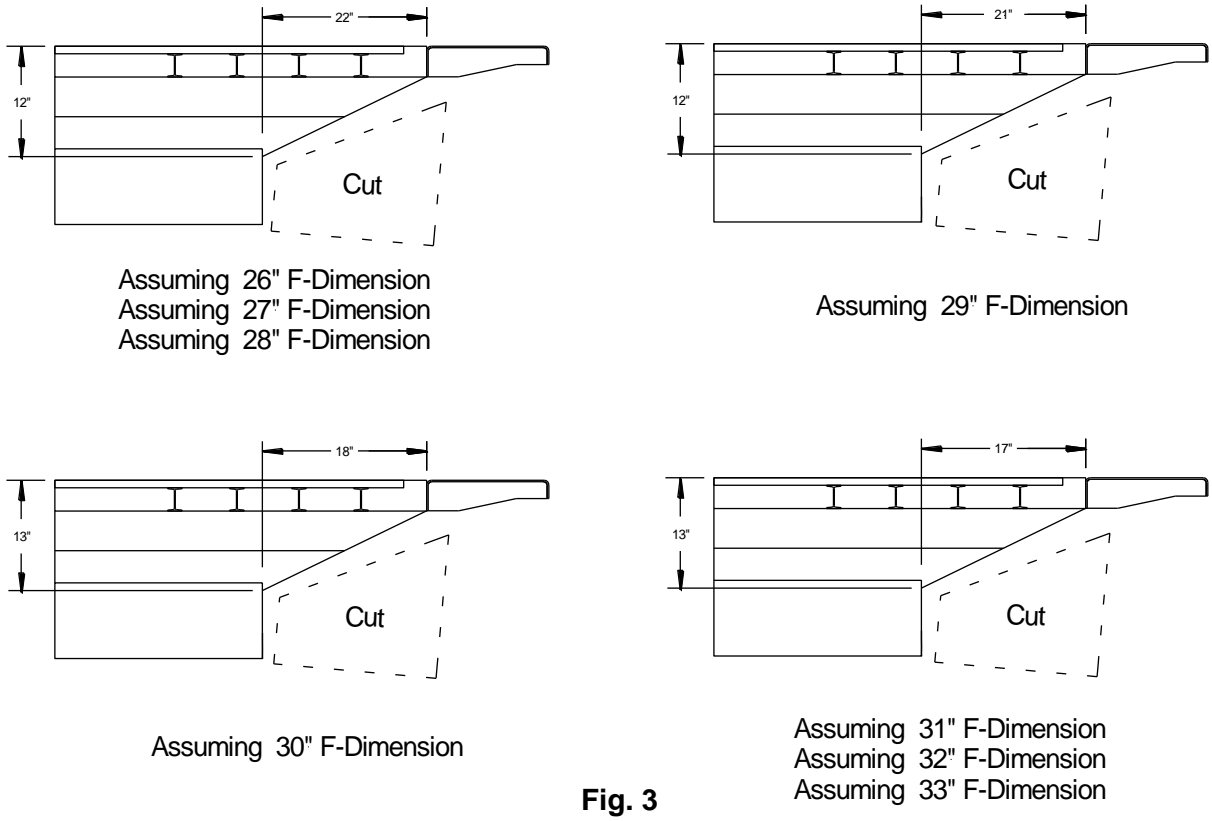

Fig. 3
- Determine the correct frame cut out according to your specific bed height. With long overhangs it is even more important to maintain min F = Max ground clearance, **Fig. 3**.